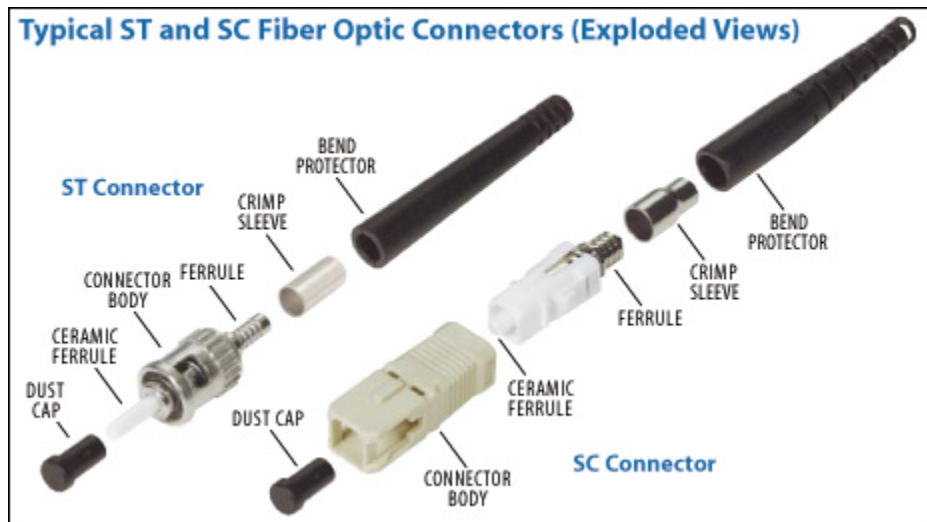

Fig. 2
Plug: The male connector. **See Appendix Fig.2**
- Care should be taken when purchasing connectors to include strain relief which reduces mechanical strain (vibration) within the cable as well as the connector. Strain relief also provides support to the cable to insure proper bend radius at the connector. **See Appendix Fig. 2**